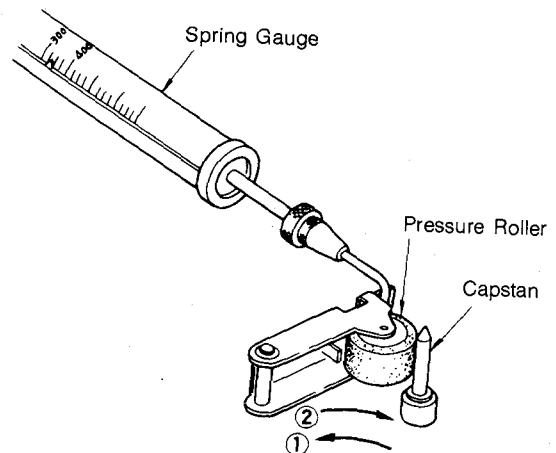

FIG. 18
2. Hook Spring gauge to arm pressure rollers, as shown in Fig. 18.
Fig. 18 shows the boosting frequency characteristics. Generally, the signal deviation increases in proportion to the frequency.